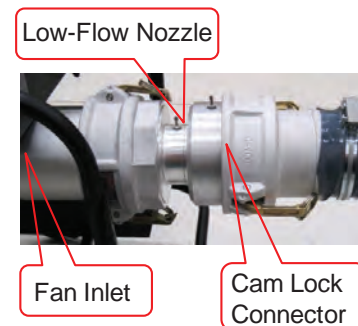

**Figure 8. Negative Pressure, High-Flow Setup**
- c. For negative pressure, high-flow testing, remove the low flow nozzle if it is installed. Then, connect the gray cast aluminum cam lock connector to the inlet side of the blower per Figure 8. Close both cam lock arms at the same time to ensure proper fit.